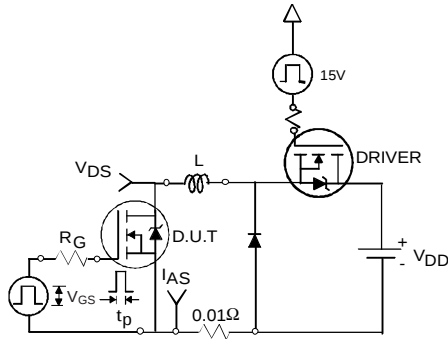

Fig 12a. Unclamped Inductive Test Circuit
3. Equation below based on circuit and waveforms shown in Figures 12a, 12b.
- ② Limited by T_{Jmax} , starting $T_J = 25^\circ\text{C}$, $L = 0.08\text{mH}$, $R_G = 25\Omega$, $I_{AS} = 36\text{A}$, $V_{GS} = 10\text{V}$. Part not recommended for use above this value.
- ③ Pulse width $\leq 1.0\text{ms}$; duty cycle $\leq 2\%$.
- ④ C_{OSS} eff. is a fixed capacitance that gives the same charging time as C_{OSS} while V_{DS} is rising from 0 to 80% V_{DSS} .
- ⑤ Limited by T_{Jmax} , see Fig.12a, 12b, 15, 16 for typical repetitive avalanche performance.
- ⑥ This value determined from sample failure population. 100% tested to this value in production.
- ⑦ When mounted on 1" square PCB (FR-4 or G-10 Material). For recommended footprint and soldering techniques refer to application note #AN-994
- ⑧ R_θ is measured at T_J approximately 90°C